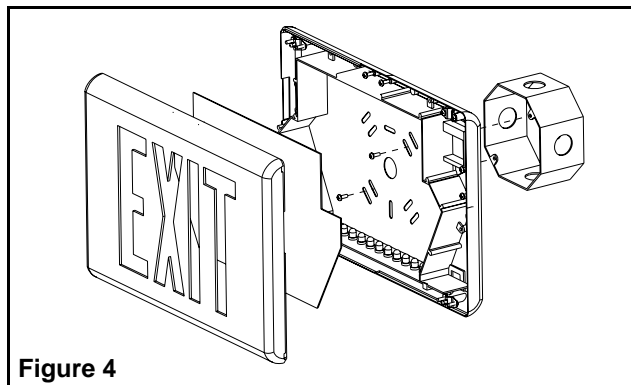

Figure 4
- a. No canopy required. Determine the proper knockout in the back cover for mounting. Support the area around knockout with two blocks of wood. Strike knockouts from the inside with a hammer and screwdriver (see fig. 4). Follow the chevrons knockout procedure in the Canopy mount section, step e.